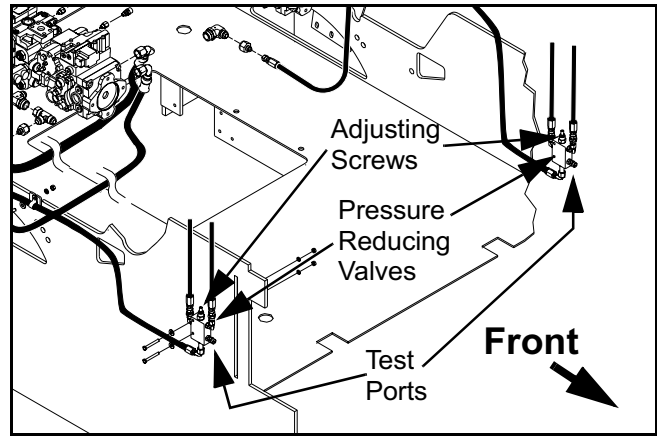

Figure 5 - 29 Pressure Reducing Valves
- 1) Install pressure gauge (3000 psi) at test port marked BTM on the Track Tension Release Valve (Figure 5 - 31).